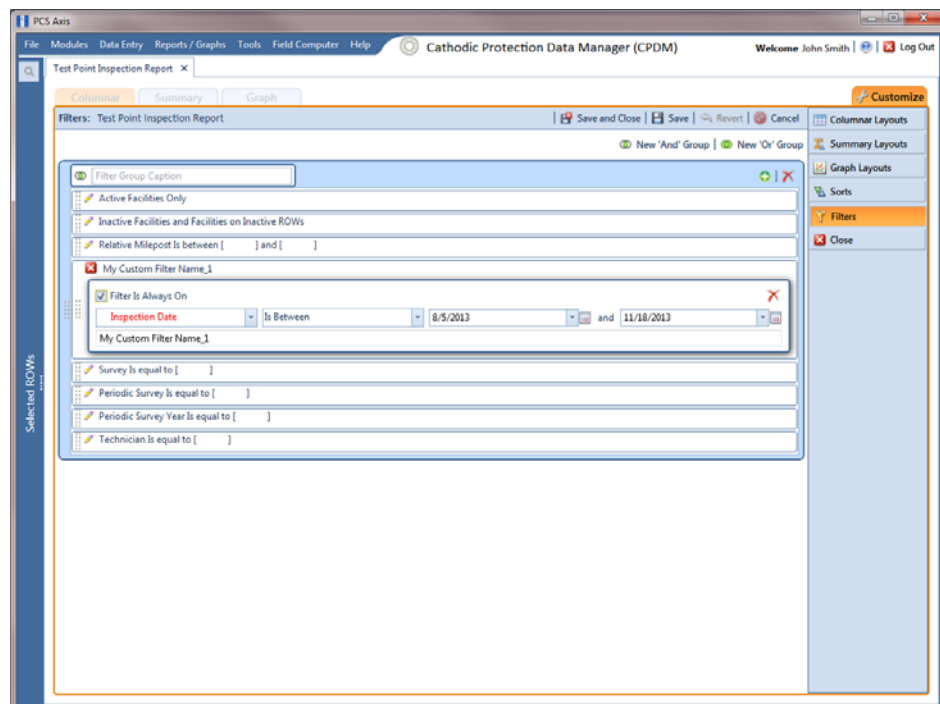

Figure 16-47. Inspection Date Is Between
- 4 Click the edit icon  to display a filter's property settings. In the following example, property settings for *Inspection Date Is between* are visible (Figure 16-47, page 726).